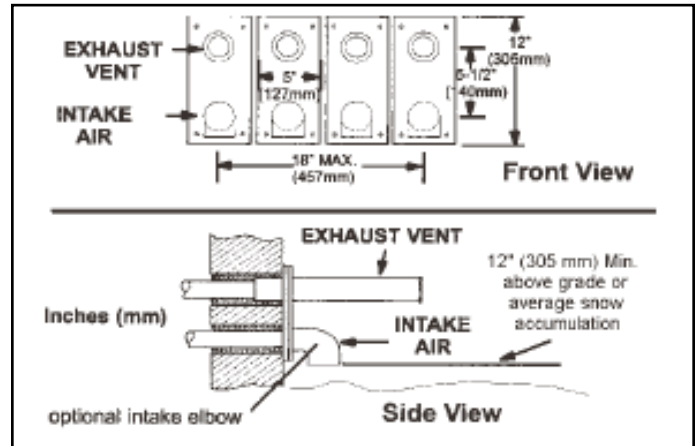

Figure 42. Optional Vent Termination for Multiple Unit Installation of Direct Vent Wall Termination
8. A multiple furnace installation may use a group of up to four terminations assembled together horizontally, as shown in Figure 42.